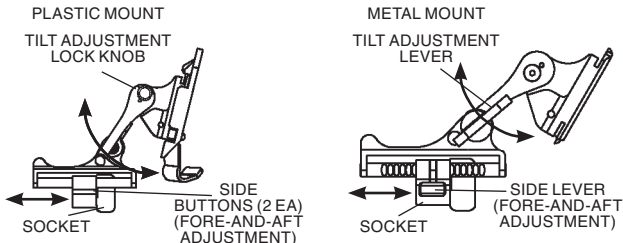

FIGURE 2.21. TILT AND FLIP-UP ASSEMBLY MECHANISMS
Set your eye relief by depressing the side buttons (or press down on side lever on metal mount) (see Figure 2.21.) and carefully move the monocular fore or aft until the eyecup comfortably seals around the eye. Readjust the helmet straps as required for vertical adjustment.
- (4) Turn power switch to ON. Adjust the tilt by using the tilt adjustment lock knob (or tilt adjustment lever on metal mount) (Figure 2.21.) until you obtain a comfortable viewing angle.
(6) Adjust the eye relief distance by depressing the side buttons (Figure 2.21.) (or press down on side lever on metal mount) and sliding monocular fore or aft to obtain a full field-of-view of the image. Reset the diopter adjustment for best image.